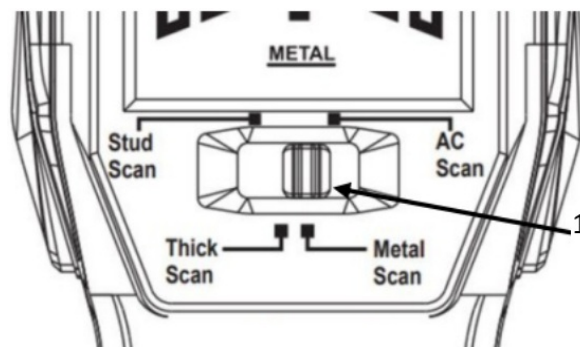

Figure 6
- Selecting detection mode, move the switch to Metal Scan (Figure 6)